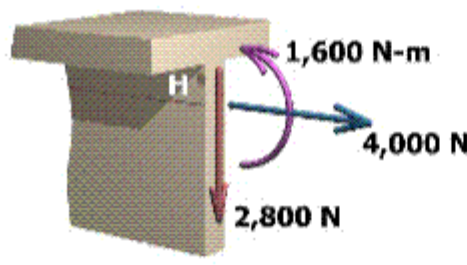
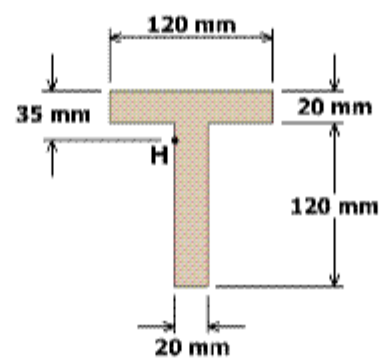

Fig. P15-20a
Fig. P15-20b
15.20 A tee-shaped flexural member (Fig. P15-20b) is subjected to an internal axial force of $P = 4,000\text{ N}$, an internal shear force of $V = 2,800\text{ N}$, and an internal bending moment of $M = 1,600\text{ N}\cdot\text{m}$, as shown in Fig. P15-20a. Determine the principal stresses and the maximum shear stress acting at point H, which is located 35 mm below the top surface of the tee shape. ~~Show these stresses on an appropriate sketch.~~